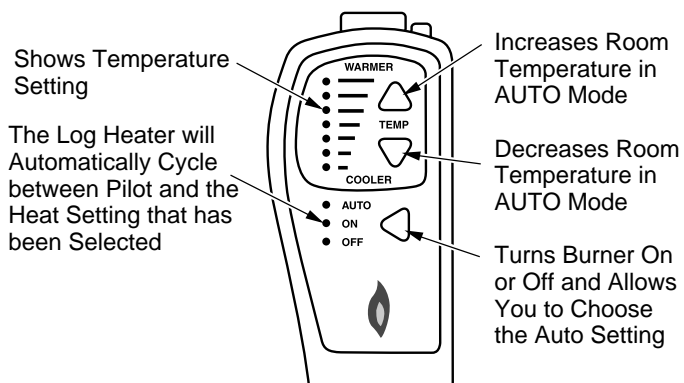

Figure 62 - Hand-Held Thermostat Remote Control Unit Selections (GHRCTA Only)
- 2b. Press the AUTO/ON/OFF button on the hand-held remote control (see Figure 62). The lights to the left of the button will show AUTO, ON, or OFF.